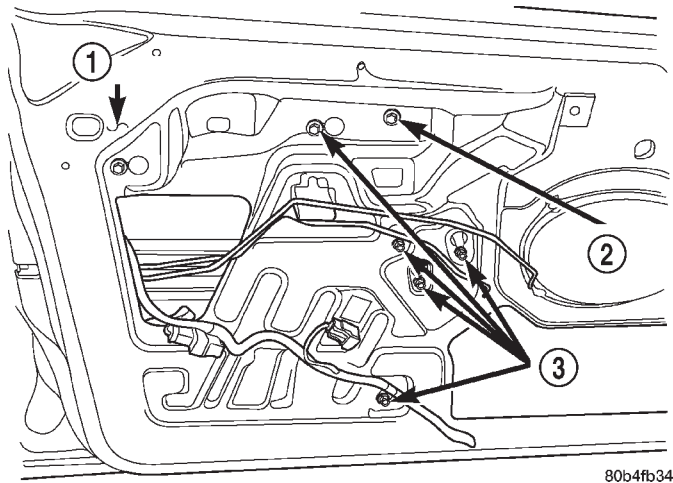

Fig. 16 Front Door Regulator Bolts
- (1) Remove front door glass, refer to (Refer to 23 - BODY/DOOR - FRONT/DOOR GLASS - REMOVAL).
- (2) Loosen bolts attaching regulator to inner door panel (Fig. 16).